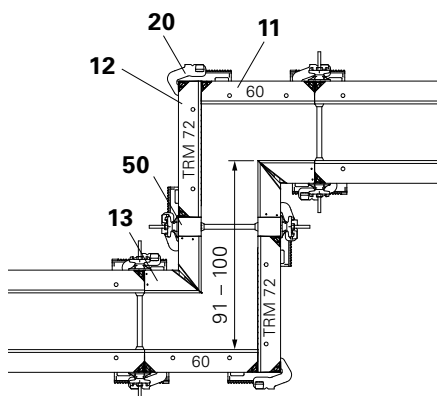

Fig. A10.04
- Panel TR 60 (11)
- Multi-Purpose Panel TRM 72 (12)
- TRIO Inside Corner TE (13)
- Alignment Coupler BFD (20)
- Compensation provided by the contractor (50)
- (Fig. A10.04)